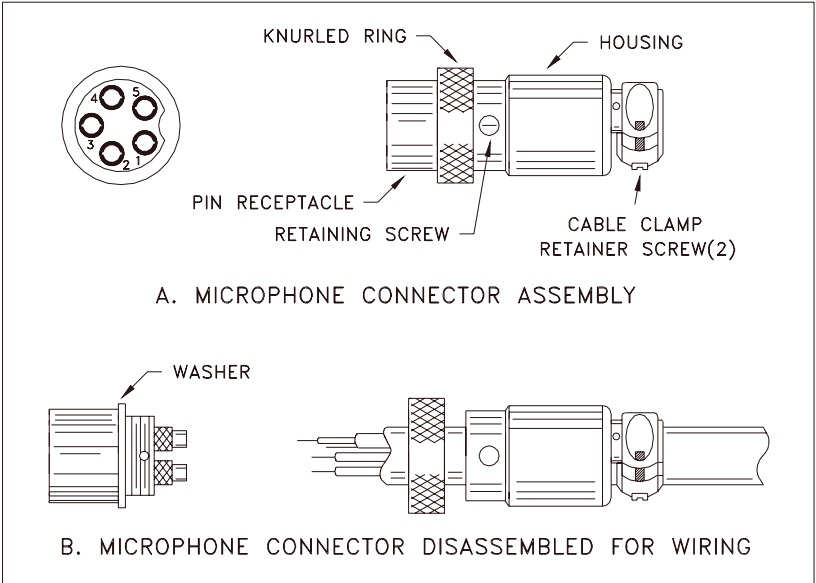

Fig 2. Microphone plug wiring
4. Feed the microphone cable through the housing, knurled ring and washer as shown Figure 2.
6. Be sure that the housing and the knurled ring of Figure 2 are pushed back onto the microphone cable before starting to solder. If the washer is not captive to the pin receptacle body, make sure that it is placed on the threaded portion of the pin receptacle body before soldering.